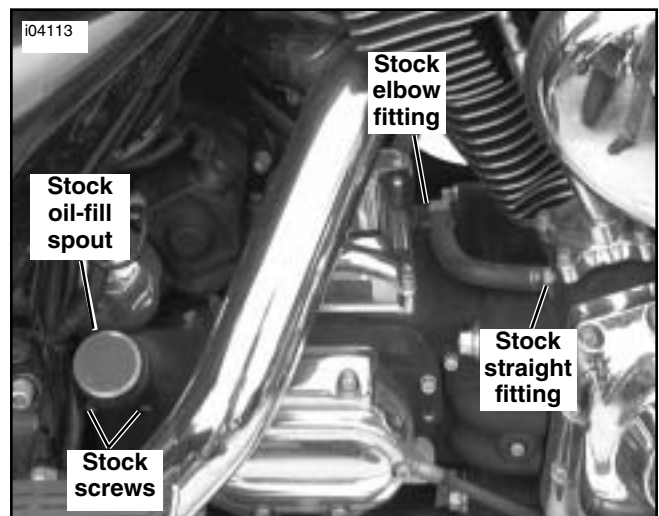
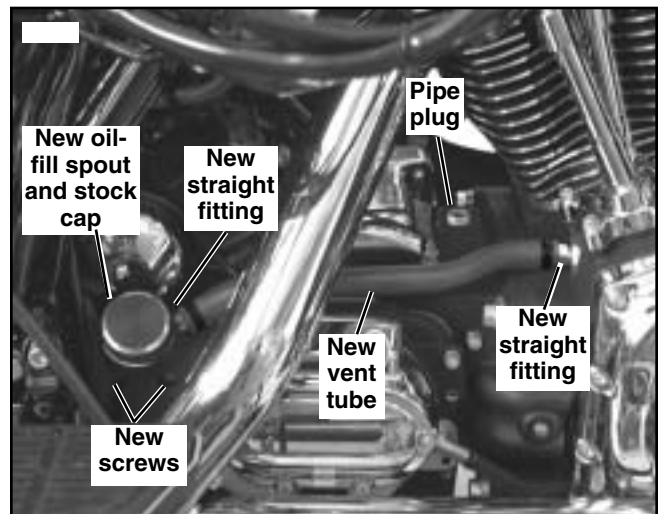

Figure 1. Stock Material Removal
Figure 2. New Material Installed
1. See Figure 1. Remove the hose clamp fastening the crankcase vent tube to the straight fitting on the cam cavity.
5. See Figure 2. Replace the elbow fitting, removed in step 3 from the crankcase, with the pipe plug. Screw the plug in until snug.
6. See Figure 1. Remove the stock straight fitting from the cam cavity.
7. See Figure 2. Replace the stock straight fitting, removed in step 6 from the cam cavity, with the new fitting. Torque the fitting to 10 – 14 ft-lbs (13 – 19 Nm).
8. See Figure 1. Remove the stock oil-fill spout from the transmission housing. Discard the stock screws. Save the dipstick for installation.
10. Fasten the new oil-fill spout (6) and gasket (1) to the transmission housing using four new screws. Torque the screws to 7 – 9 ft-lbs (10 – 12 Nm).
11. See Figure 2. Screw the straight fitting into the threaded hole on the right side of the oil-fill spout (6). Torque the fitting to 10 – 14 ft-lbs.
12. Place two new hose clamps (3) loosely on the new vent tube (4).
11. See Figure 2. Fasten the new vent tube (4) between the straight fittings (2) on the oil-fill spout (6) and the cam cavity. Secure the tube to the fittings using the new hose clamps (3).